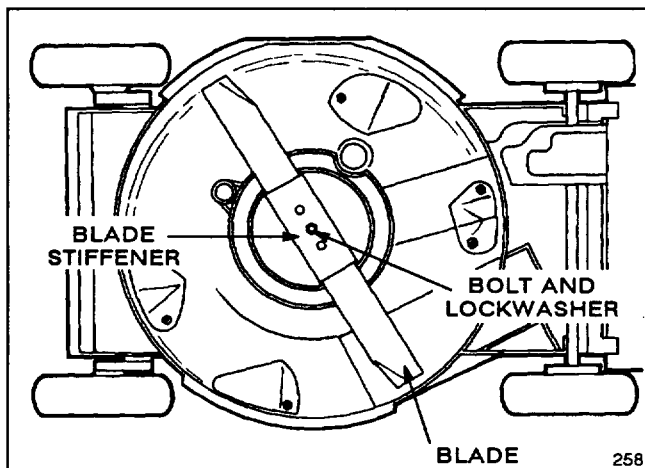

Figure 25
3. Tip mower on its right side (Fig. 25). Avoid rotating blade as starting problems may result.
5. **REMOVING BLADE**—Grasp end of blade using a rag or thickly padded glove. Remove blade bolt, blade stiffener, and blade (Fig. 25).